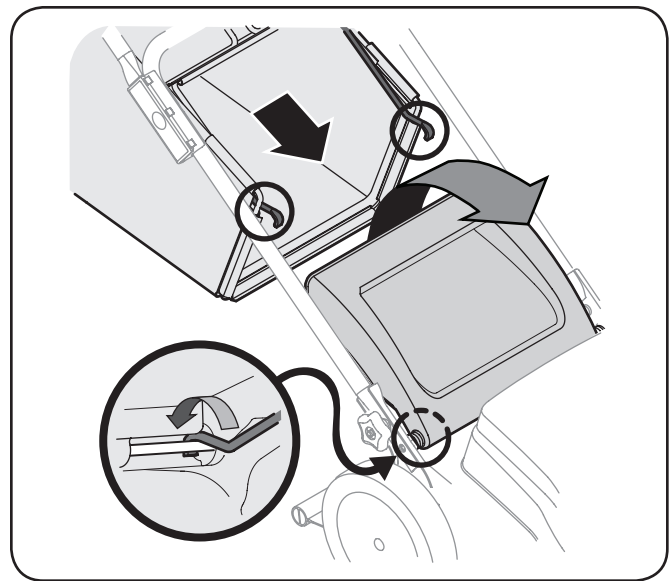

Figure 3-5
- Place grass catcher on the pivot rod. Let go of discharge door so that it rests on the grass catcher. See Fig. 3-5.